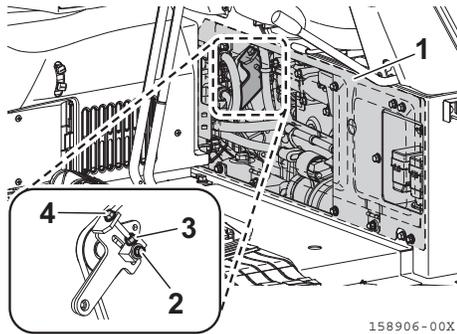

Fig. 8-43
2. Open the cover of the seat mount (**Fig. 8-43, 1**), remove the bolt and then the cover of the seat mount (**Fig. 8-43, 1**).
3. Tighten the tension pulley bolt (**Fig. 8-43, 2**).
4. Loosen the adjuster lock nut (**Fig. 8-43, 3**).
5. Turn the adjuster bolt (**Fig. 8-43, 4**) to adjust the belt tension to the specified value.
6. When the adjustment is complete, tighten the tension pulley bolt (**Fig. 8-43, 2**), and then tighten the adjuster lock nut (**Fig. 8-43, 3**).
7. Check the belt tension again. If the tension is proper, install the cover of the seat mount (**Fig. 8-43, 1**).